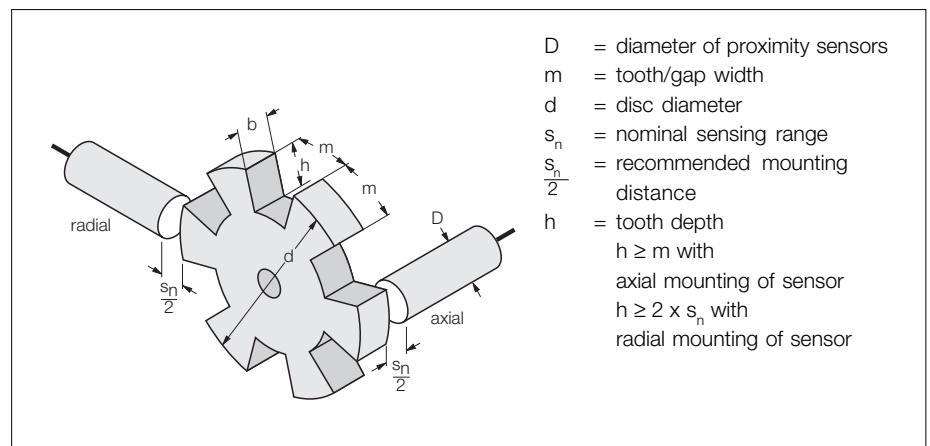

Fig. 3 Radial and axial mounting of a sensor
- Despite the shaft's bearing it can happen that shaft play impairs rotational speed monitoring. Therefore it is necessary to consider shaft play when mounting the sensors in their two different positions. (see page 2-5, fig. 3)